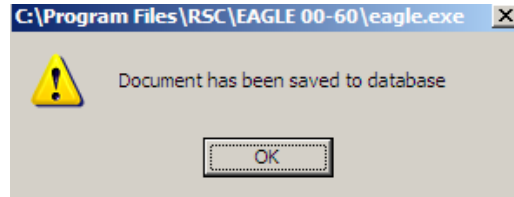

Figure 7. Document Has Been Saved to Database Dialog Box.
- Choose the **OK** button to acknowledge that the subtask has been saved successfully (Figure 7).